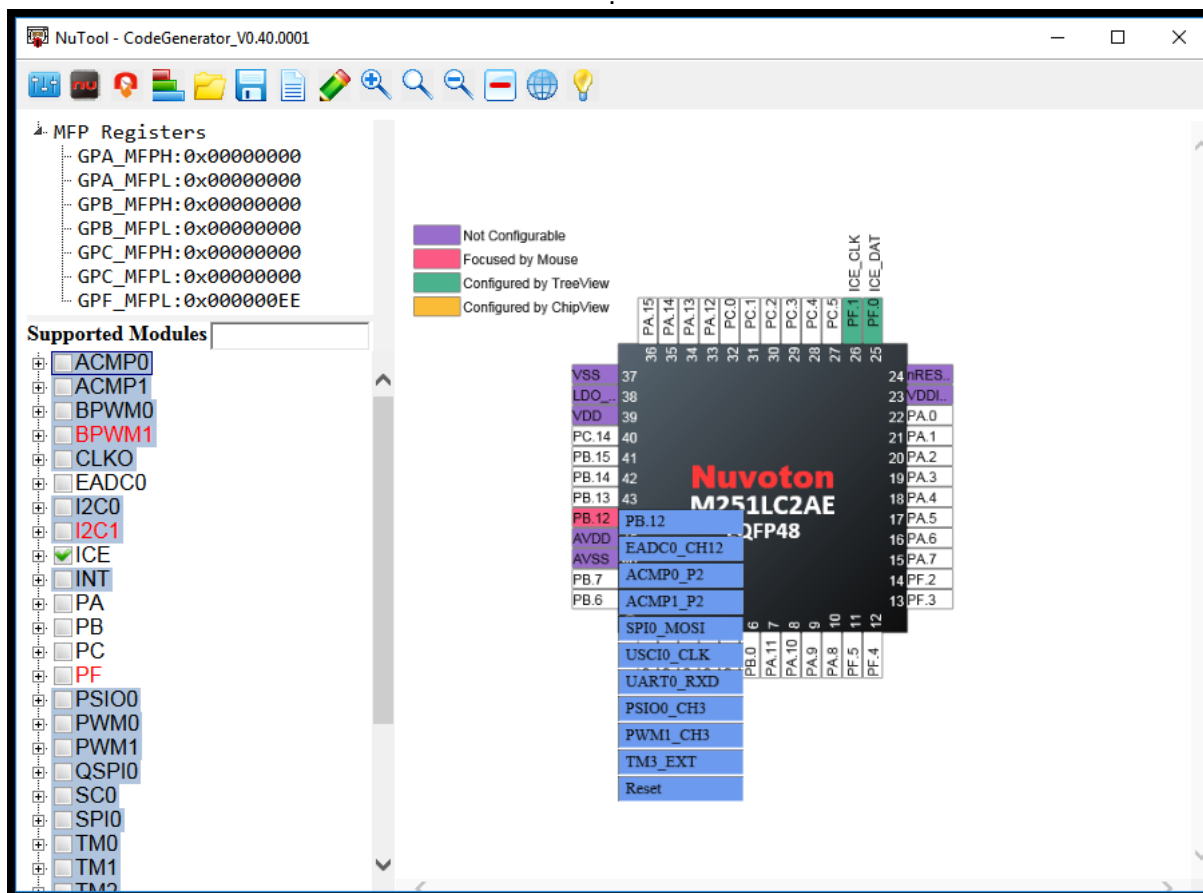

Figure 5-10 List of All the Related GPIO Multi-functions
1. Move the mouse cursor to the expected pin and click on the left button of the mouse. Then the list of all the related GPIO multi-functions will emerge in the vicinity of the pin (referring to Figure 5-10).